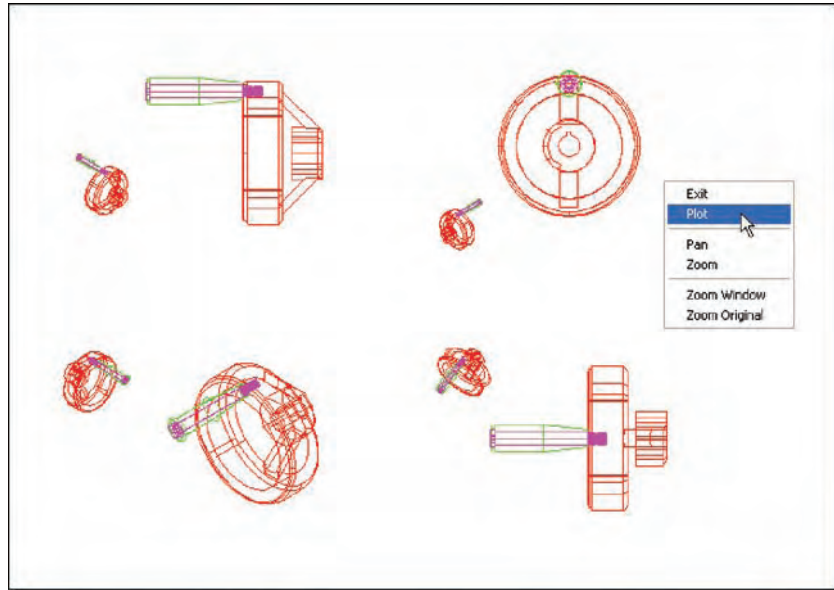

Fig. 19.12 Polygonal viewports – plot preview after turning the layer **Yellow** off
13. Click the **Plot** icon. Make plot settings in the **Plot** dialog. Click on the **Preview** button of the **Plot** dialog. The **Preview** appears (Fig. 19.12).